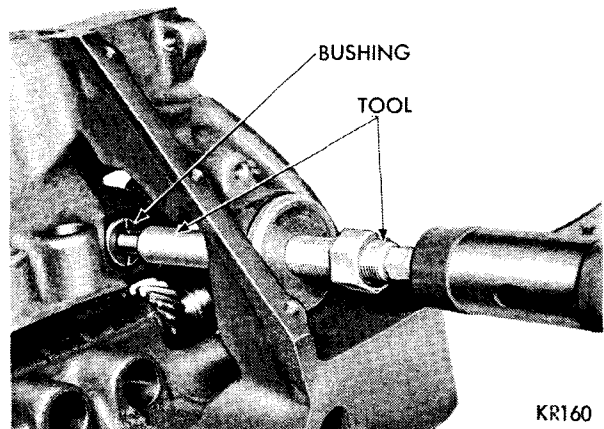

Fig. 23—Installing Distributor Drive Shaft Bushing
- (1) Slide new bushing over burnishing end of Tool C-3053.
- (2) Insert tool and bushing into bore. Drive bushing and tool into position, using a soft hammer (Fig. 23).